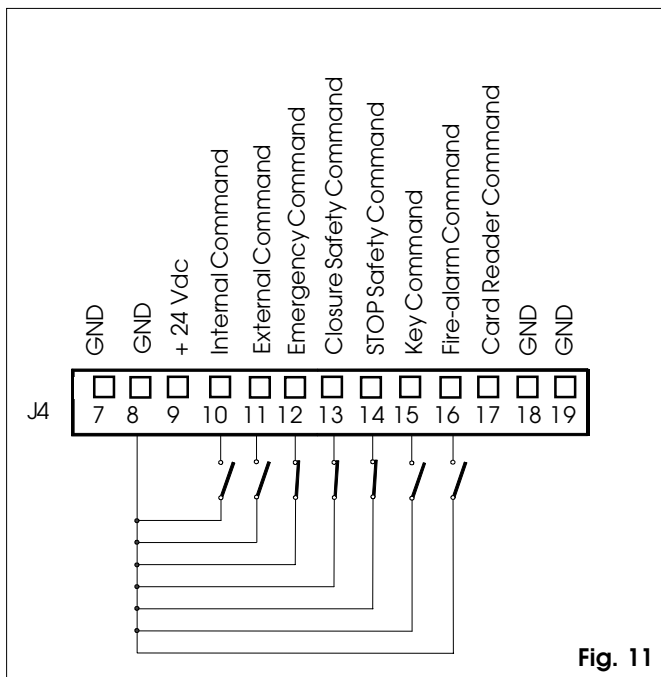

Fig. 11
⑤ **J4 TERMINAL BOARD** Inputs Connection (figs. 11, 12, 16)
NIGHT: The external command is inactive. The door can be opened solely by activating the Key command (fig. 11).